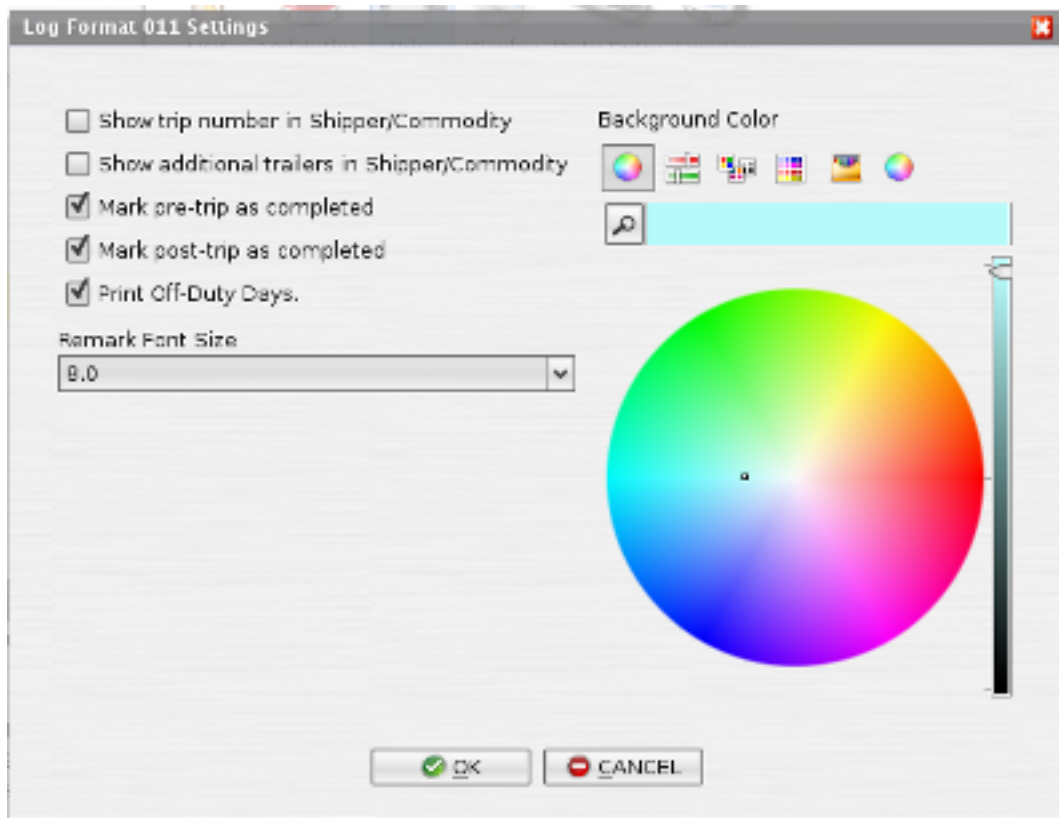

Figure 7.8. Individual Log Format Settings
1. After selecting the desired log format see Section 7.4.1, "Selecting Log Format". Click the small button to the right of the log format box with the gear icon.  and wait for the individual log format settings dialog to appear see Figure 7.8, "Individual Log Format Settings".